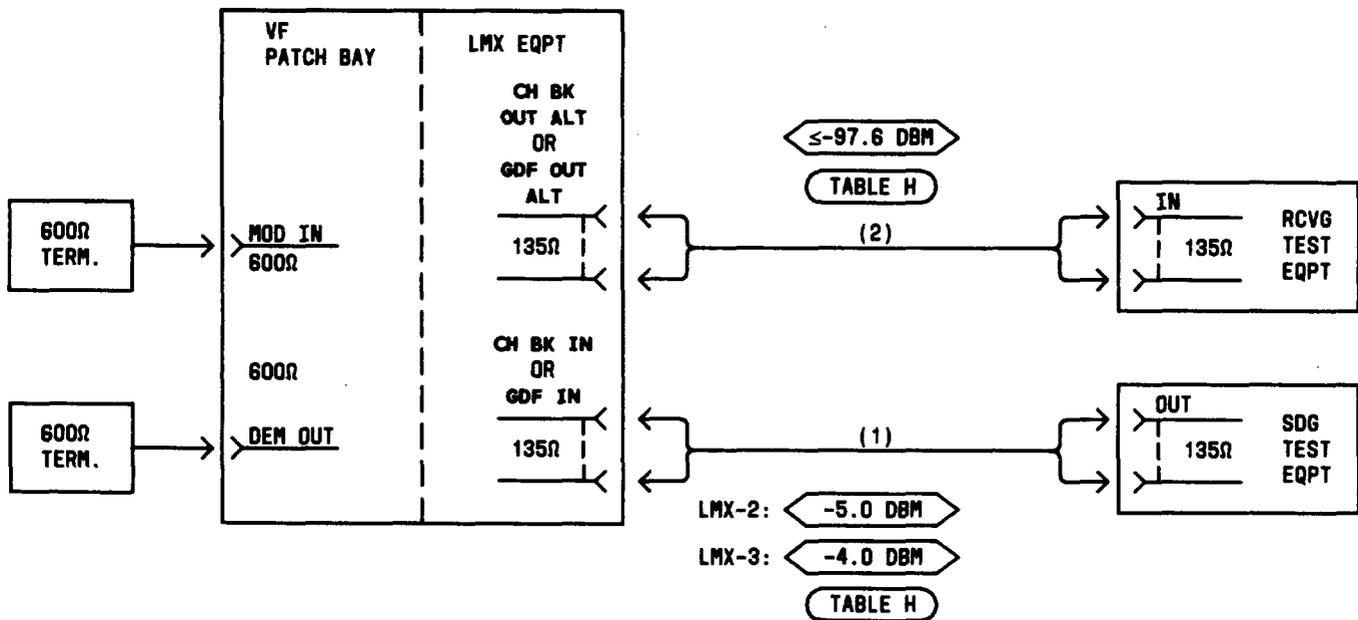

Fig. 13—Patching Diagram—Intrachannel Crosstalk Test
12	Insert 262B plugs in the MOD IN and DEM OUT jacks for the channel under test (Fig. 13).
17	Remove patches (1) and (2), Fig. 13.